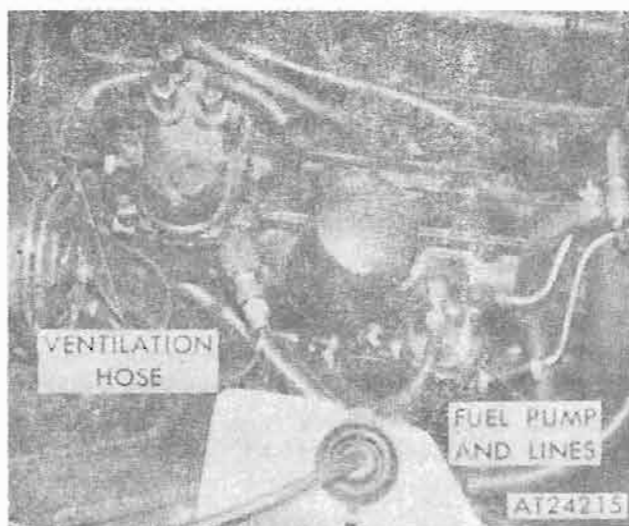

Figure 4-290. Distributor ventilation line and attaching parts (M151A2, M825, and M718A1 vehicles).
on top of crankcase ventilation line assembly with two clips (3). Install distributor vent hose (11) and hose (16) with four hose clamps (4). Slip ventilation line (6) in clip (8), attached to rear engine lifting eye, and connect one end to $\frac{1}{8}$ inch NPT connector (7) in rear intake manifold and other end to hose (9). Tighten hose clamps and tube nut firmly to provide waterproof connections (fig. 4-290).